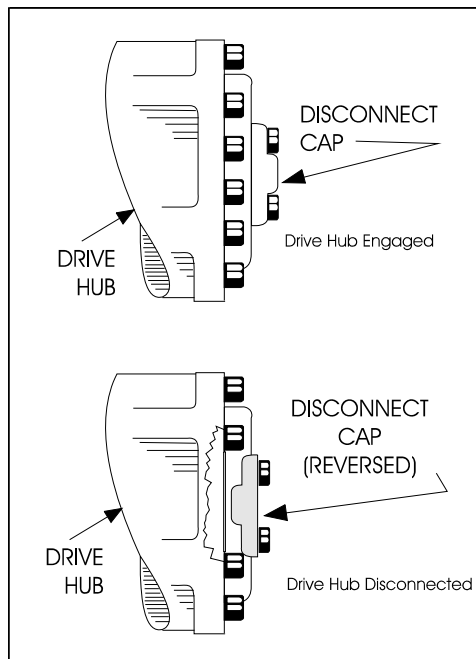

Figure 4-5. Drive Disconnect Hub
3. Disconnect drive hubs by inverting disconnect cap. Refer to Figure 4-5., Drive Disconnect Hub.